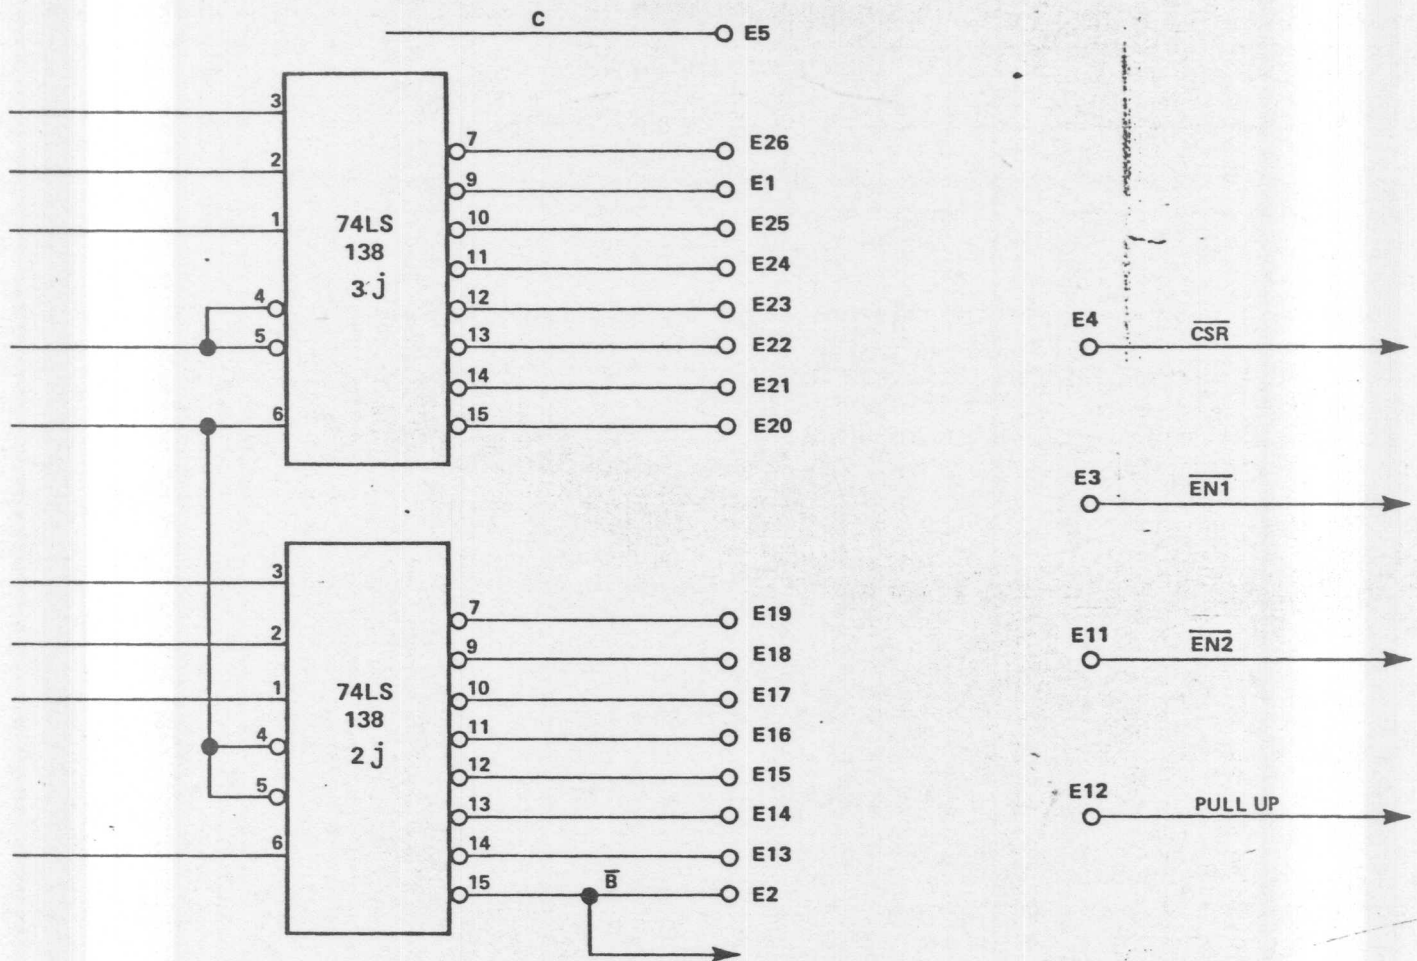

FIG: 3
9.1 Memory Mapping (FIG: 3 and 4)